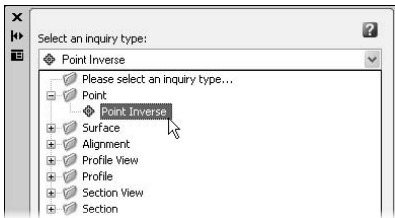

Figure 2.2
- 4. On the Inquiry tool, select the Inquiry Type pull-down list and expand the Point branch to select Point Inverse as shown in Figure 2.2.